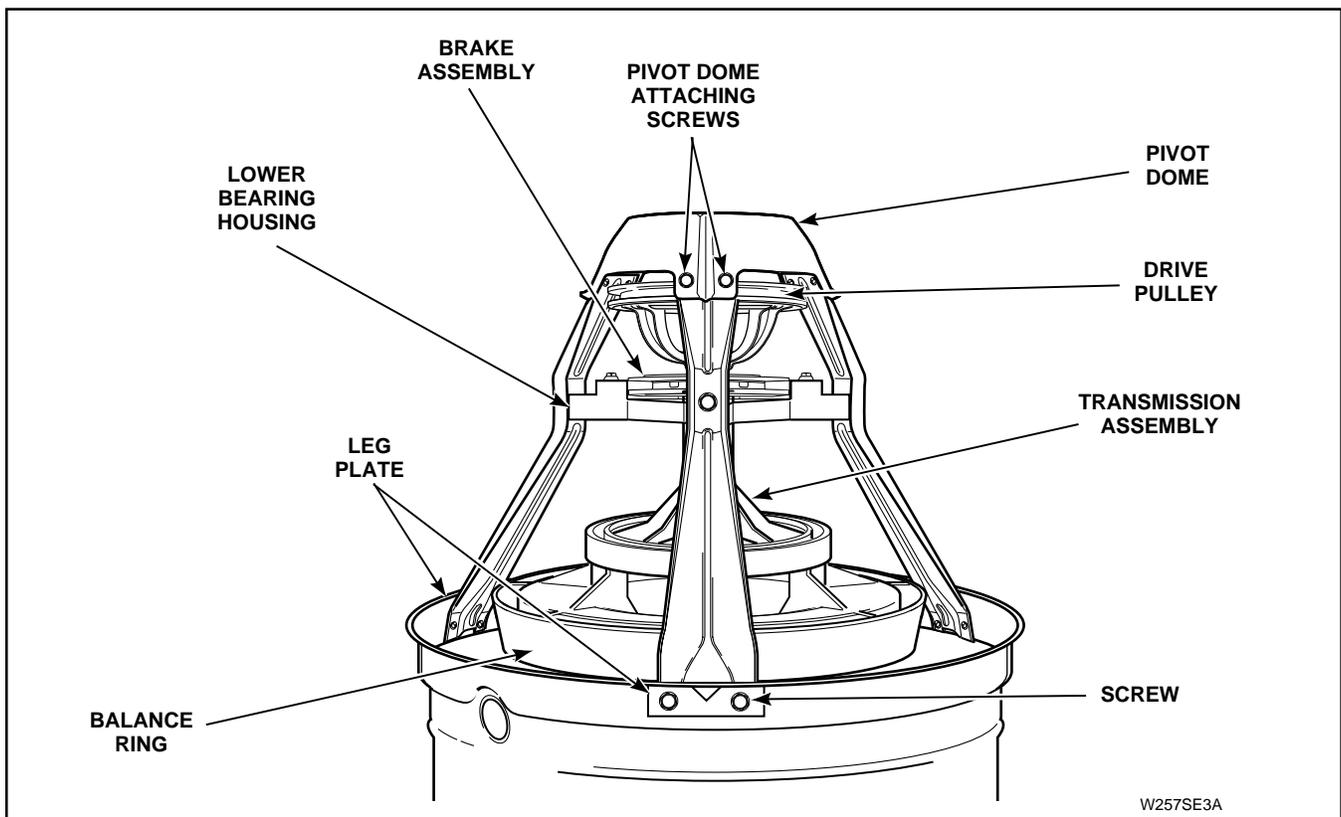

Figure 41
- i. Remove screws holding each support leg to outer tub, *Figure 41*. Then lift transmission, balance ring and pivot dome off tub.